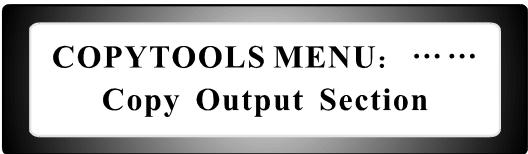

Figure 2
1. Press menu enter main menu (As shown in Figure 2) , press 'BACK'、 'NEXT'、 'ENTER' key ,chose Copy Tools Sub-Menu.